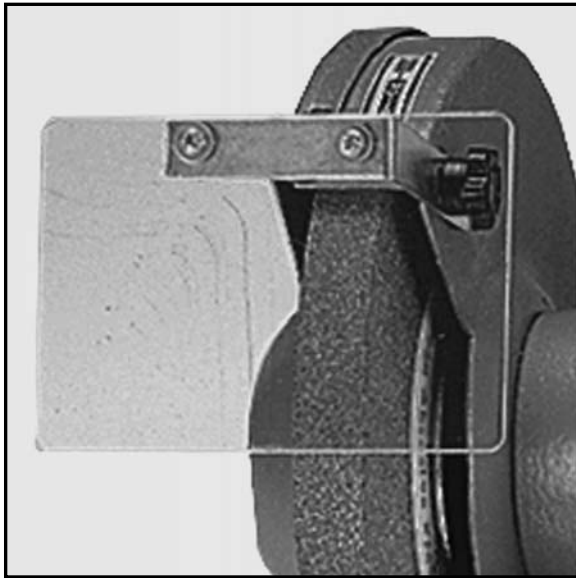

Figure 1
3. Tighten the fasteners until the tool rest is secure. **Figure 1.**